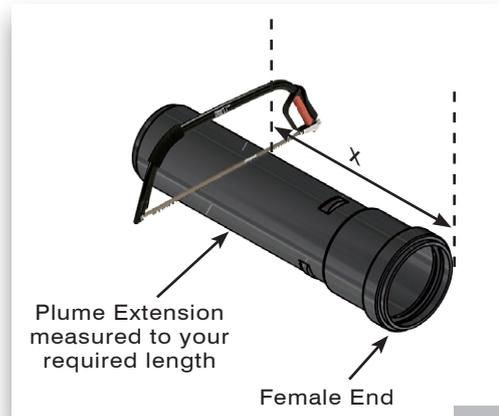

Figure 2
- 2.3 Cut the plume extension to the desired length measuring from the female end as shown in Figure 2. Making sure the ends are square and free from burrs.